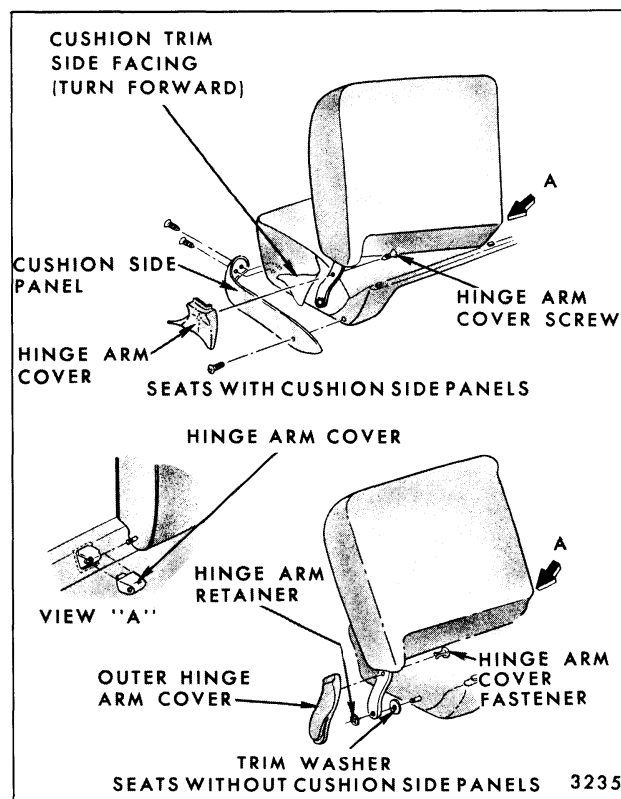
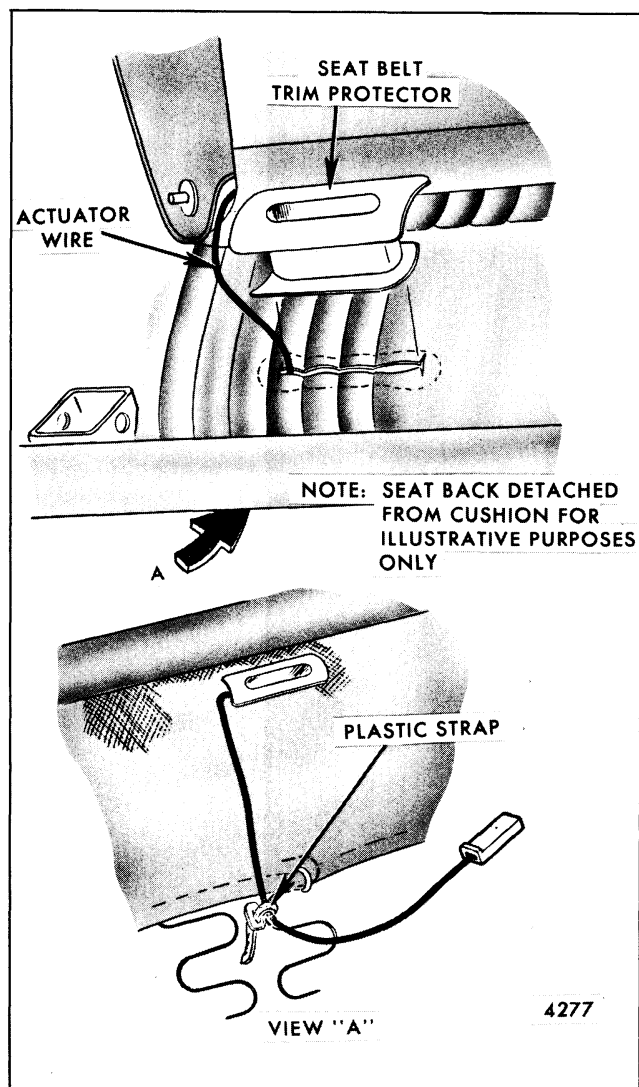

Fig. 9-32-Seat Back Attachment - Two-Door Style Full Width Seat
Fig. 9-34-Electric Seat Back Lock Wire Route Through Seat Cushion - Two-Door Style Full Width Conventional Seat
panel and detach seat cushion trim sufficiently to expose outer hinge pin and retainer (Fig. 9-32 or 9-33).
On seats with outer hinge arm cover or inner hinge pin cover, remove screw or detach fastener securing cover and remove cover (Fig. 9-32 or 9-33).
- Using a flat-bladed tool carefully remove retainer, securing seat back outer arm to hinge pin (Fig. 9-32 or 9-33).
locks, lay seat back on seat cushion and carefully disengage lap belt webbing plastic protector (see Fig. 9-32 or 9-34) from seat cushion. From under front of seat, disconnect lock actuator feed wire from relay jumper wire; from under rear of seat detach feed wire clip from strap securing wire to seat spring (see Fig. 9-34); then, carefully pull feed wire up through seat cushion and remove seat back from body.